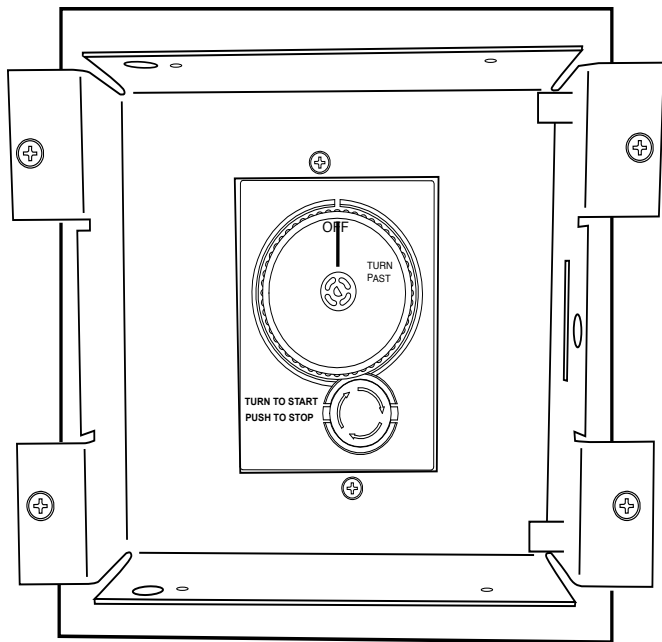

Fig. 3 Shows gas timer installed into back panel.
Step 4: Install the Gas Timer using the two screws provided with the gas timer into the back panel. See Fig. 3.